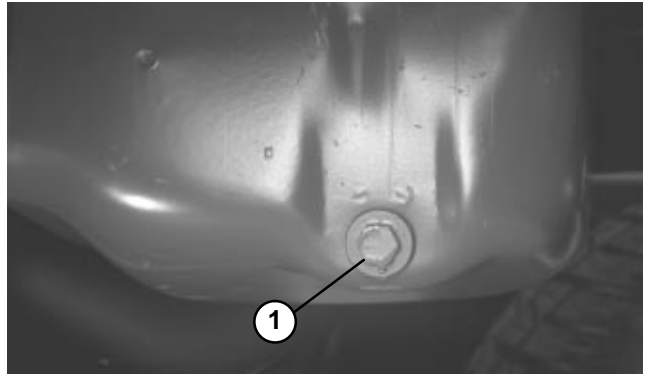

Figure 7
1. Remove drain plug (Fig. 7) and let oil flow into drain pan. When oil stops, install drain plug.